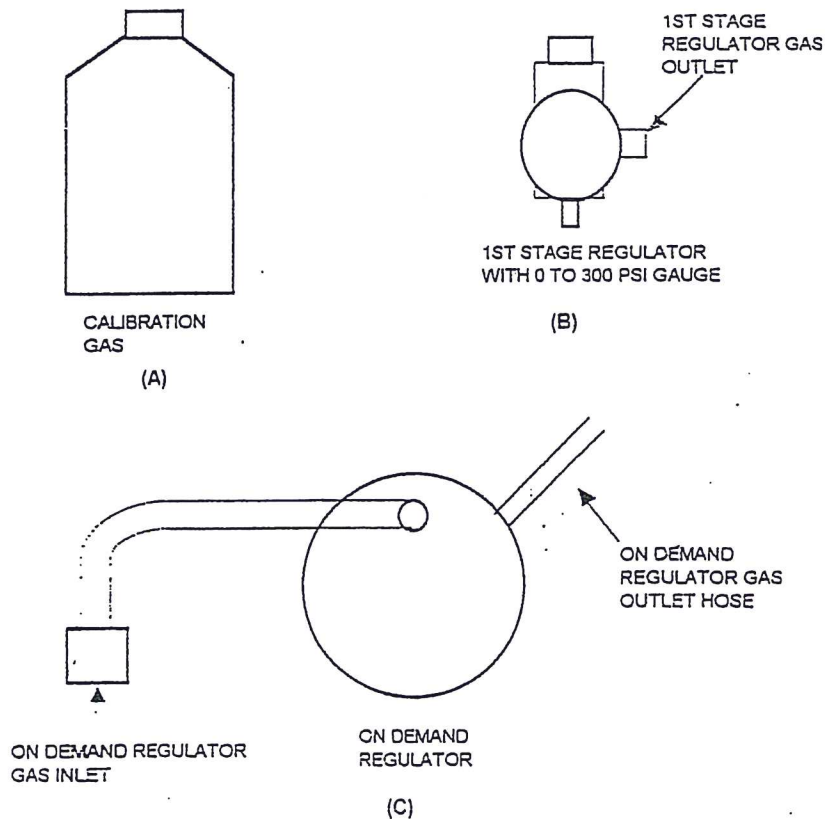

FIGURE 1
1. Bottle of 100ppm Carbon Monoxide calibration gas (Figure 1 A below)
2. 1st stage regulator with 0 to 300 psi gauge (Figure 1 B below)
3. On demand regulator (Figure 1 C below)